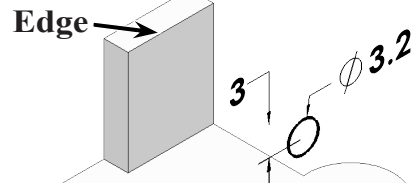

Fig. 21
Step 7. Dimension **diameter 3.2** **3** from top edge, **Fig. 21**.